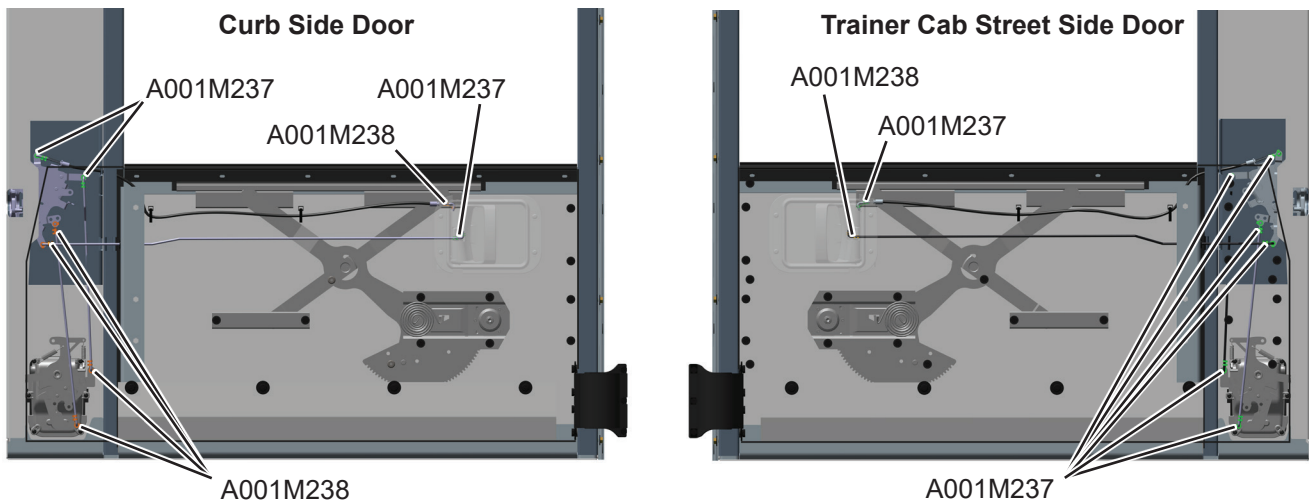

Figure 1 - Cab Door Rod Clip Locations - Interior Door Skin Hidden for Clarity
7. Replace rod clips as required. See Figure 1 for rod clip locations.